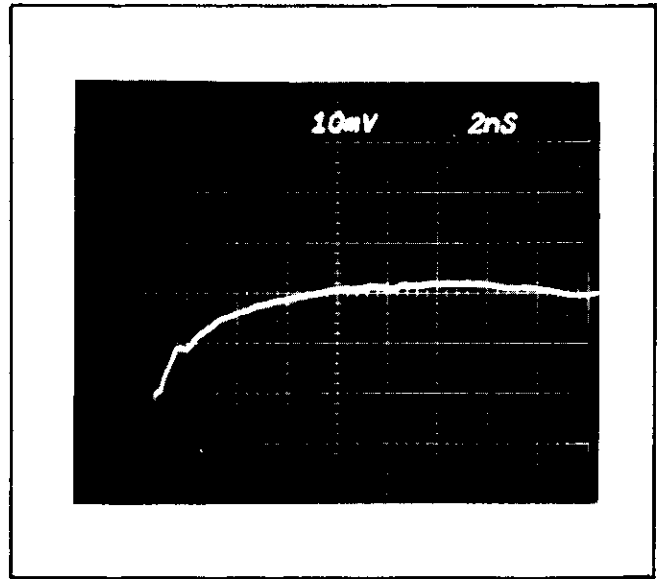

Fig. 3-2. Typical sampling oscilloscope system response curve obtained when C1000 has been properly adjusted (step 11j).
j. When the proper vertical alignment has been made, adjust C1000 so that the response curve for the positive-going FAST RISE output signal is aligned with the reference graph as close as possible. A very slight amount of front-corner overshoot relative to the graph is desirable. See Fig. 3-2. Do not expect to obtain the same aberration amplitudes as the reference graph. In no case should the displayed signal aberrations deviate from the reference graph by more than 1 vertical division.